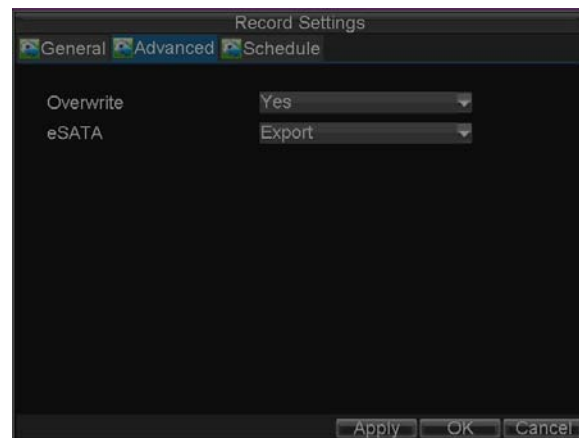

Figure 3. Advanced Record Settings
5. Press the *3DEF/F2* button on DVR front panel to select the *Advanced* tab to access the Advanced Settings submenu, shown in Figure 3.
- Note:** DS-8100 AH (F) (L) I-ST does not provide eSATA.